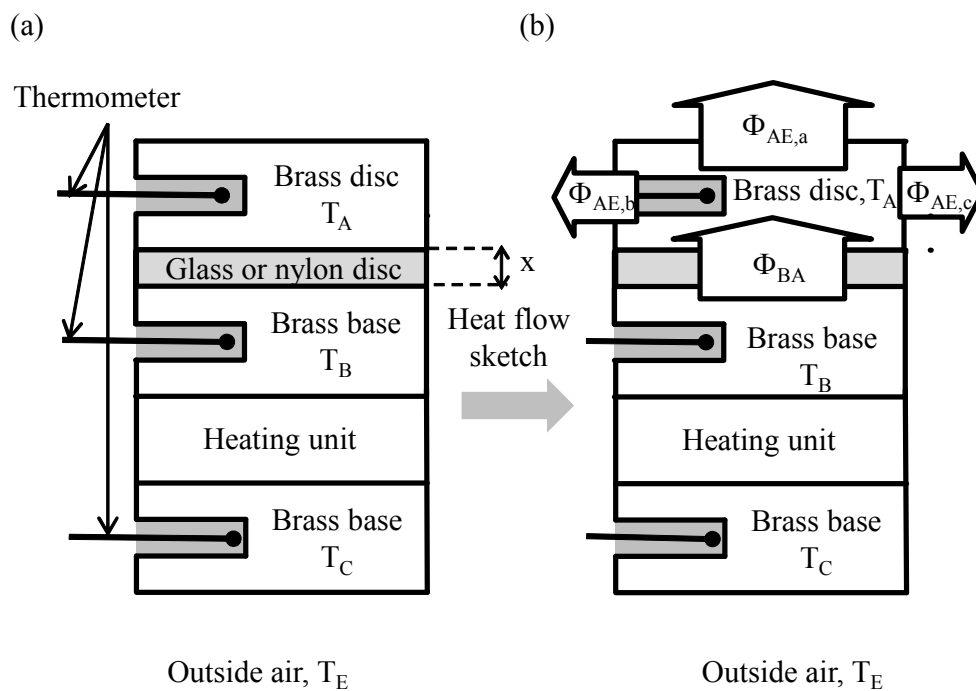

Figure 9.1 : (a) sketch of the setup, (b) heat flow in this setup
- Plot the temperatures T_A and T_B (according to figure 9.1.a) as a function of time.